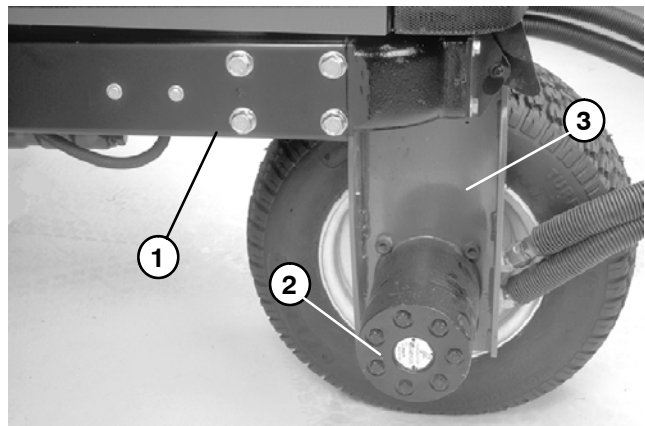

Figure 3
- C. Use jack stands or hardwood blocks under the frame to support the machine (Fig. 3).
- B. Place jack securely under the rear wheel motor as close to the fork as possible (Fig. 3). Jack rear tire off the ground.